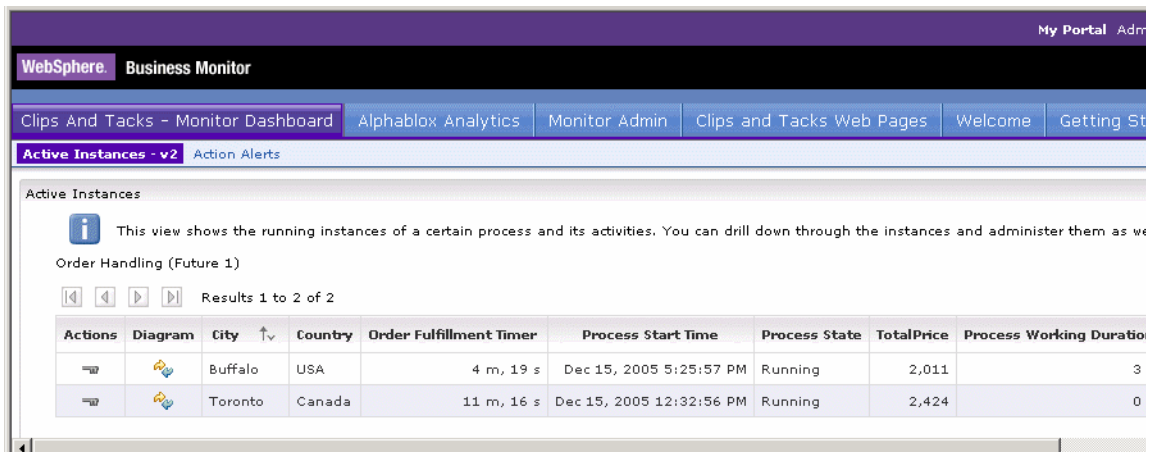

Figure 12-30 Active instances: Portlet view
- ▶ Click *Finish* to accept this configuration and your page view will look as shown in Figure 12-30.